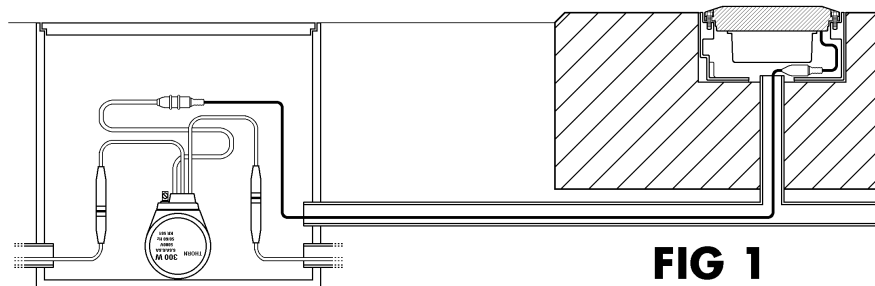
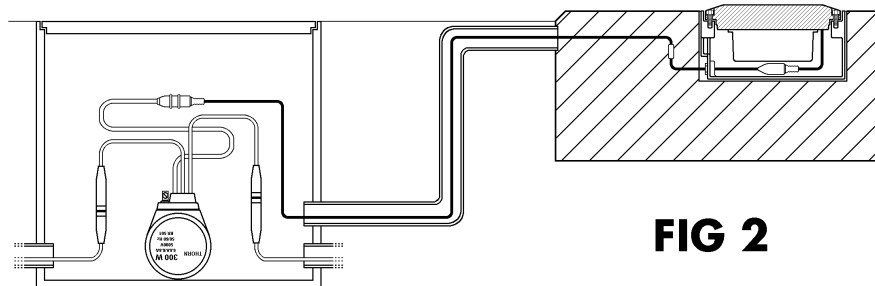

FIG 1
FIG 2
1. For installation using Conduits already Buried in the layout to lead the Secondary Cables (see Fig 1 here after), a Shallow Base with Bottom Entry is necessary.
2. For using Saw Cuts made in the layout to lead the Secondary Cables (see Fig 2 here after), a Shallow Base with Side Entry is necessary. In this case the Shallow Base is supplied equipped with one (or two*) FAA L823 Type II Class A Style 7 Receptacle(s).
The supports are shallow bases (12" Fig 2 and 16" Fig 3) or FAA type deep base (L-868B Fig 1 and L-868C or LB1 Fig 4).